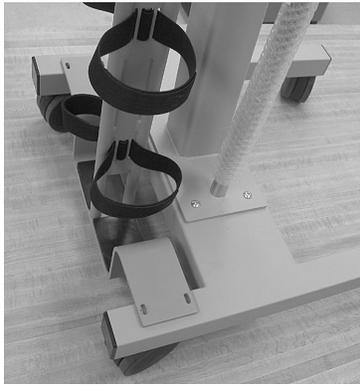

Figure 3.19
2. Place assembled tank bracket on short side of "H" stand legs. (Figure 3.19)